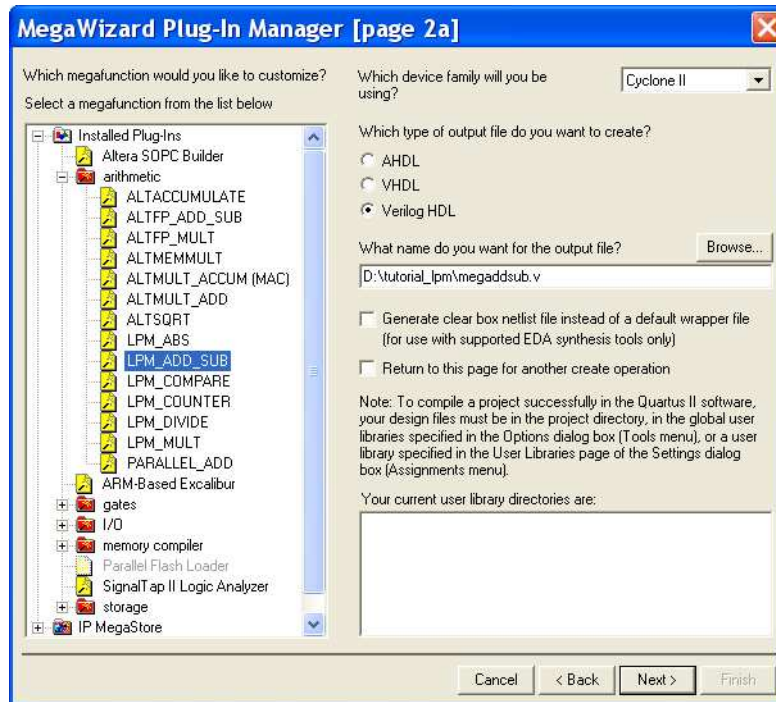

Figure 5. Choose an LPM from the available library.
3. The box in Figure 5 provides a list of the available LPMs. Expand the “arithmetic” sublist and select LPM_ADD_SUB. Choose Verilog HDL as the type of output file that should be created. The output file must be given a name; choose the name *megaddsub.v* and indicate that the file should be placed in the directory *tutorial_lpm* as shown in the figure. Press Next.